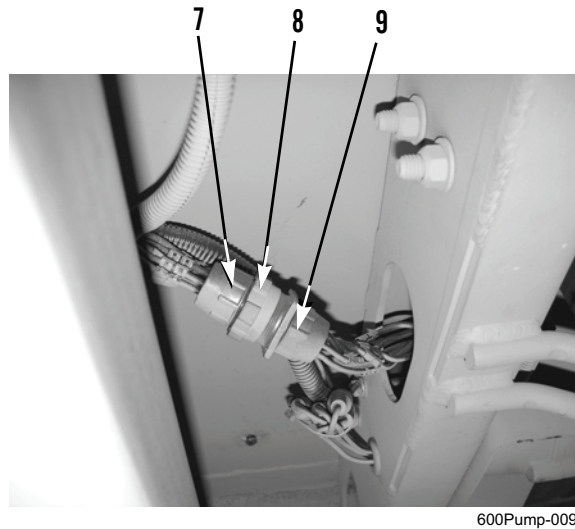

Figure 6. Harness Connection at 24V Electrical Receptacle.
5. Connect trailer wiring harness connector (Figure 6, Item 7) to connector (Figure 6, Item 9) of 24V electrical receptacle and tighten nut (Figure 6, Item 8).